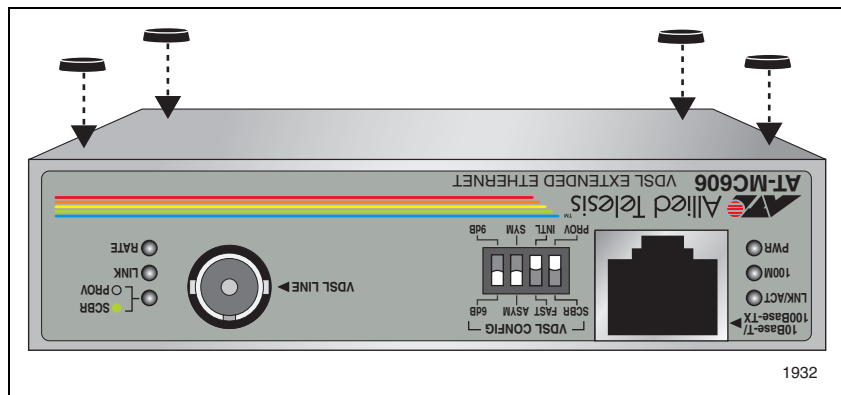

Figure 12. Attaching Protective Feet
2. Attach the four protective feet (provided) to each corner of the bottom of the unit, as illustrated in Figure 12.